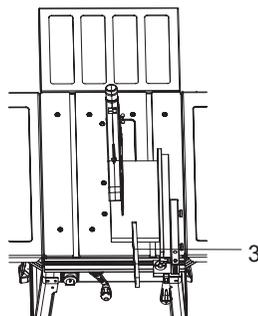

Fig. 18
2. Cutting narrow workpieces (Fig. 18)